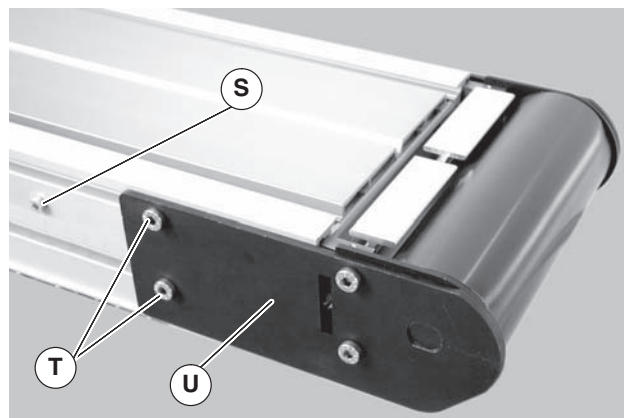
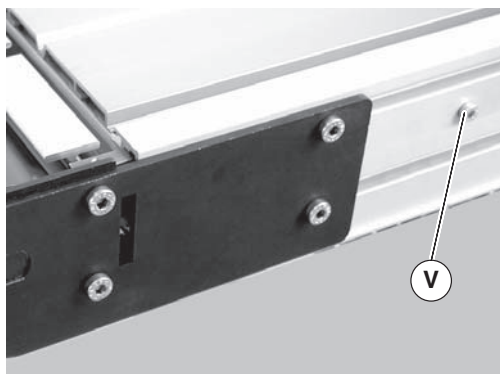

Figure 5
Figure 6
2. On tension end of the conveyor, identified by the pinion locking screw (Figure 5, item S), push in head plate assembly (U): Loosen the pinion locking screw (S), adjust the pinion torque screw (Figure 6, item V). On both sides of conveyor, loosen the two tail clamp bolts (Figure 5, item T), and push head plate assembly (U) inward.